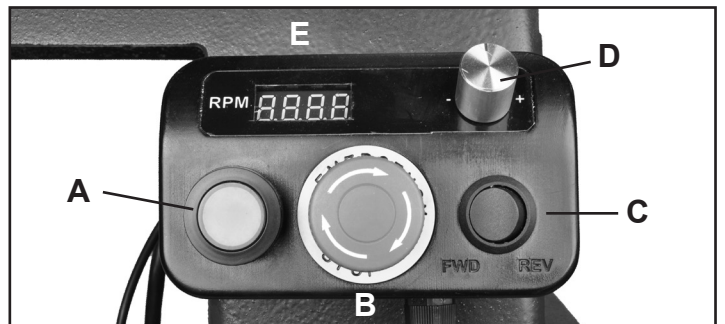

FIG. 6
The lathe features a corded Control Box (FIG. 6, #E1) with magnets on its back that allow it to be positioned on the face of the headstock or anywhere along the lathe's bed! Wherever it is most comfortable for the turner to quickly access the controls to regulate turning speeds, direction of spindle rotation or to stop the lathe.
1. **'ON' BUTTON:** (FIG. 6, A) Push the green Button so that it turns the lathe ON. Push the red 'mushroom' Button (B) to turn the lathe OFF.
2. **'STOP' BUTTON:** (B) Push in the extended red Button to stop the lathe. To restart the lathe, rotate the OFF button clockwise and it will pop out to reset itself. Then press the 'ON' button to restart the lathe.
3. **FORWARD / REVERSE SWITCH:** (FIG. 6, C) This selector switch will change the direction that the spindle turns - clockwise (forward) or counter-clockwise (reverse).
4. **SPEED RPM KNOB:** (FIG. 6, D) This knob controls the desired spindle revolutions per minute (RPM). The lathe has three speed ranges - 250-850, 430-1450, 950-3200 RPM. Spindle speeds are shown on the LCD Display (E).
5. **SPEED RPM DIGITAL READOUT:** (E) Displays the spindle's RPM as set by the RPM Knob (D). **NOTE:** Speeds displayed may vary + - 5% due to difference in input voltage.